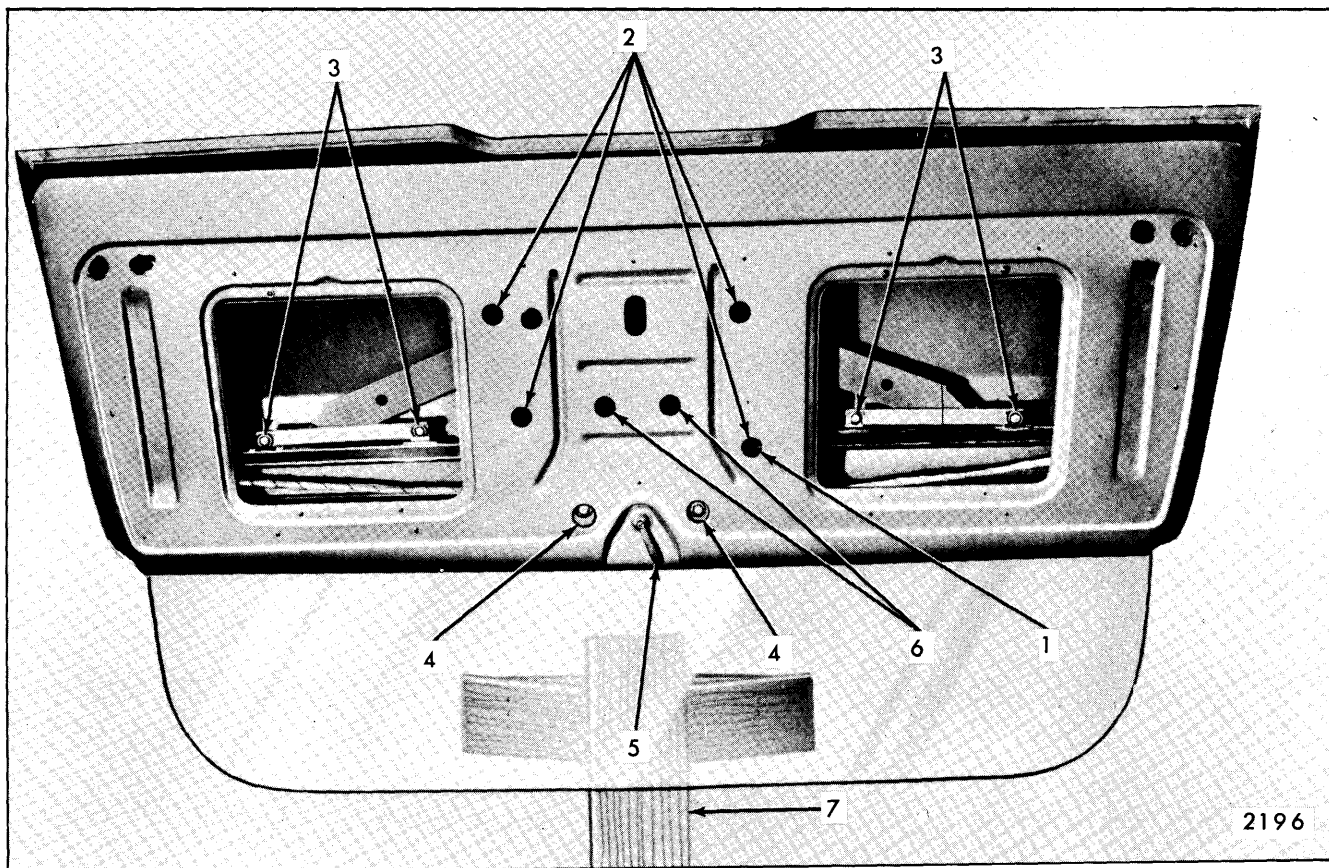

Fig. 9-12—Tail Gate Window Hardware
2. Position tail gate window so that outside handle (or key switch) attaching nuts are accessible through gate inner panel and window regulator access holes (See Fig. 9-12).